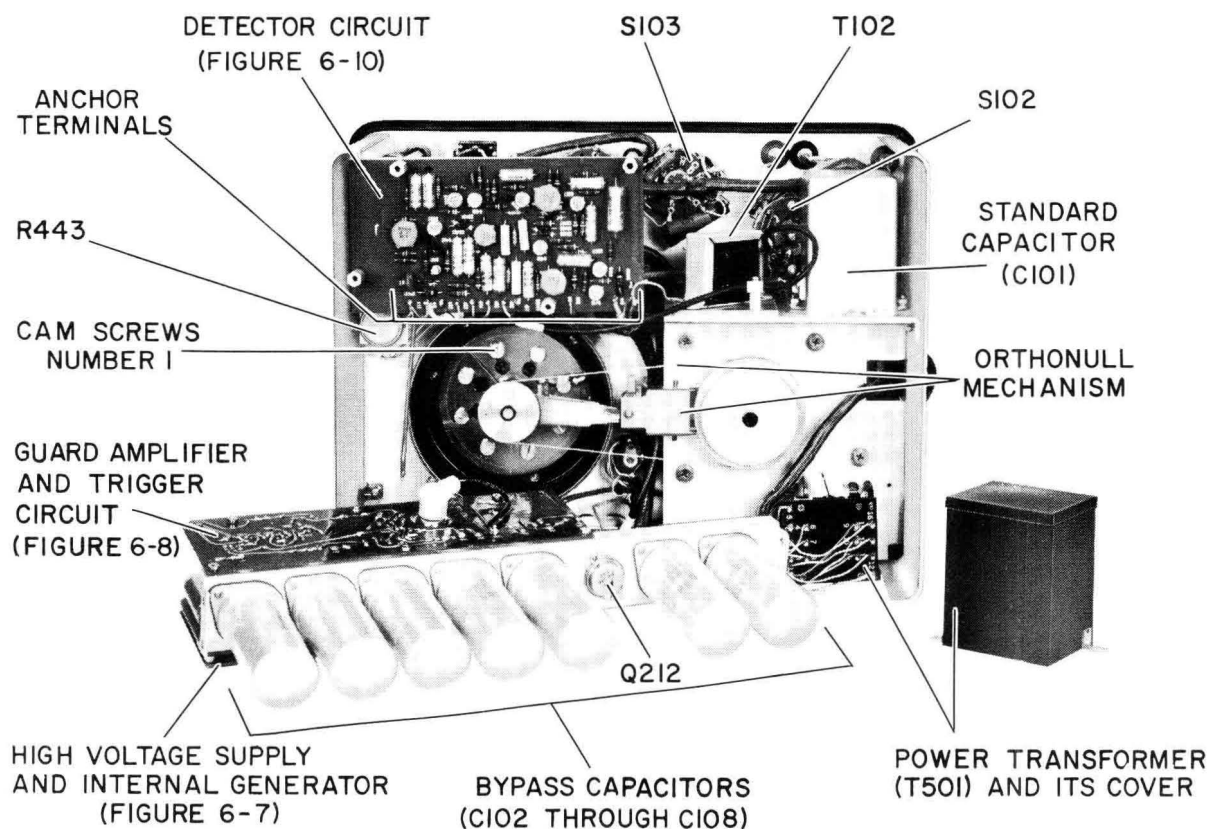

Figure 6-2. Rear interior view of the Type 1617 Capacitance Bridge.
Transformer Secondary Voltages (T501) With 115 V Into The Primary (Figures 6-2 and 6-10)
Waveforms in the Detector Circuit (Figure 6-2)
**Direct Resistance Measurement.** The C rheostat mechanical justifying mechanism consists of eight cam screws located on the rear of the C rheostat (see Figure 6-2), numbered from 1 to 8 in a clockwise direction from the slit on the cam plate. They can be adjusted by setting them for the proper resistances as indicated in Table 6-4. To reach the rheostat, remove two screws on each side of the inner plates, unsolder the connecting wire, and swing down the battery of capacitors.
C Dial Calibration Adjustments (Figure 6-2)